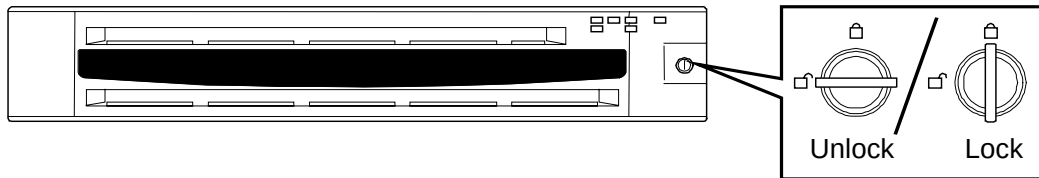

Figure 2-39. Unlocking the Front Bezel
1. Insert the security key into the key slot and turn the key towards the front bezel to release the lock. See Figure 2-39.